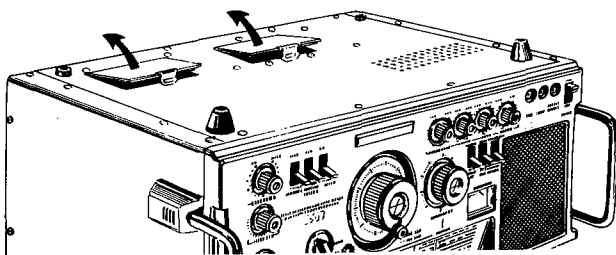

Fig. 1
- Open the battery compartment covers by pushing each latch as shown in Fig. 1.